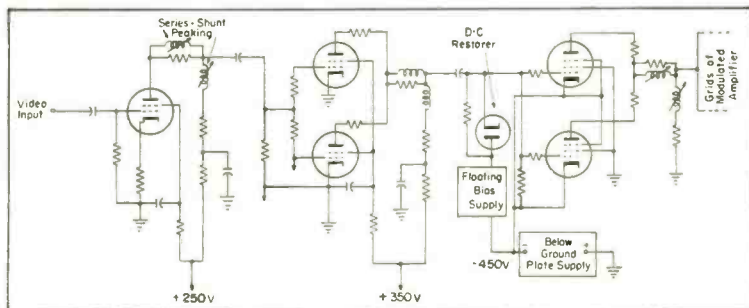

Figure 4
Three conditions for one setting of r-f drive are shown in Figure 4: (1) no video modulation, (2) white picture modulation, and (3) black picture
Fundamentally, a television grid-bias-modulated stage operates under conditions similar to class B, i.e., the tubes are biased in the vicinity of cutoff. In Figure 4, we find the ideal case where the bias is adjusted so that signal excursions about this point maintain the output waveform over a linear portion of the grid plate transfer characteristic. Should the bias be excessive, operation will be about the lower knee of the transfer curve and the resulting non-linearity will cause compression in the signal representing the white picture area. This condition is most easily noticed as amplitude distortion of a linear gray scale. When the bias is not as great as the tube linearity allows, full advantage of the grid base is not realized, and sync compression may take place. Sync compression is the result of operating on the upper knee of the transfer characteristic, and is evidenced by changing the ratio of sync to video-plus-sync;
3Care must be continually exercised so that neither sync compression nor white saturation take place. The discussion of Figure 4 explains how these various discrepancies may exist and how corrective measures may be applied.